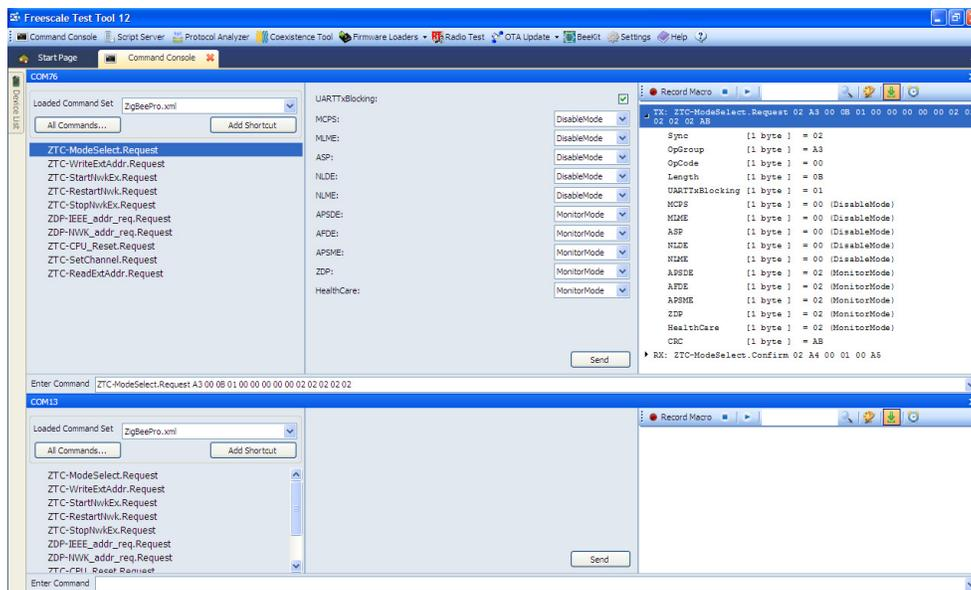

Figure 8-10. ZTC-ModeSelectRequest Command
4. Send a ZTC-ModeSelect.Request command with the parameters shown in Figure 8-10.